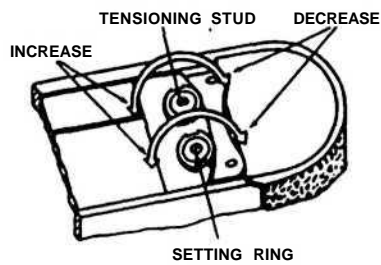

Figure 4—9. Spring Roller Adjustment.
- (5) Adjusting tension of curtain spring rollers (fig. 4—9).